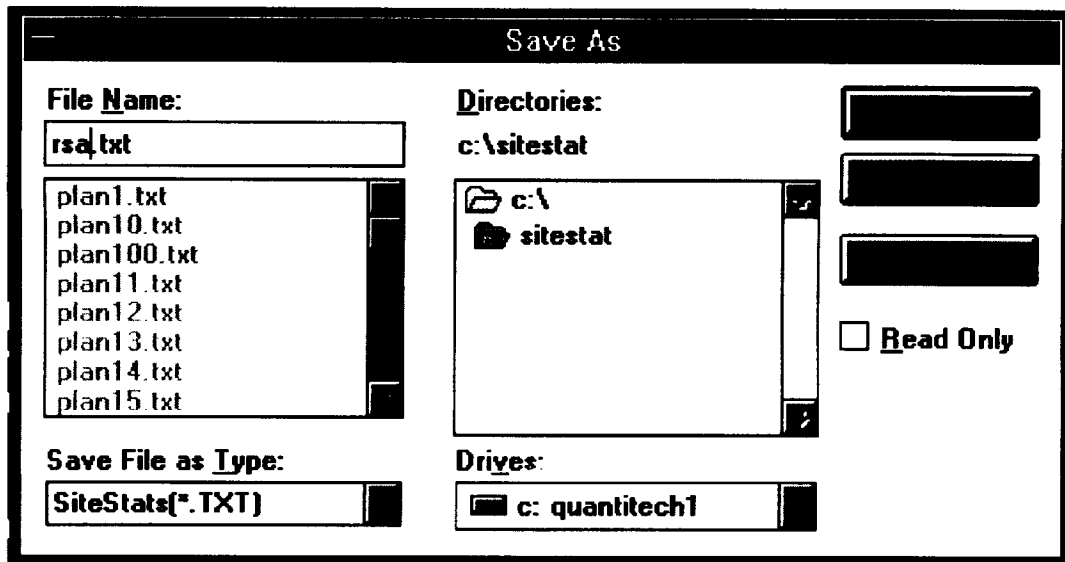

Figure 3.4-1. Saving Files
- * Use the **Save As** command to save your data for the first time and give it a name, see Figure 3.4-1.